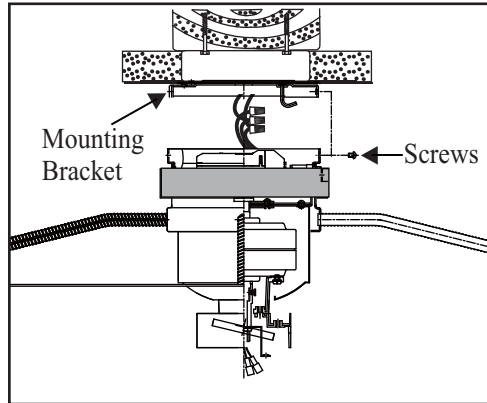

Figure 9
1. Move fan into position over the mounting bracket and secure with the 4 screws provided. (Fig. 9)